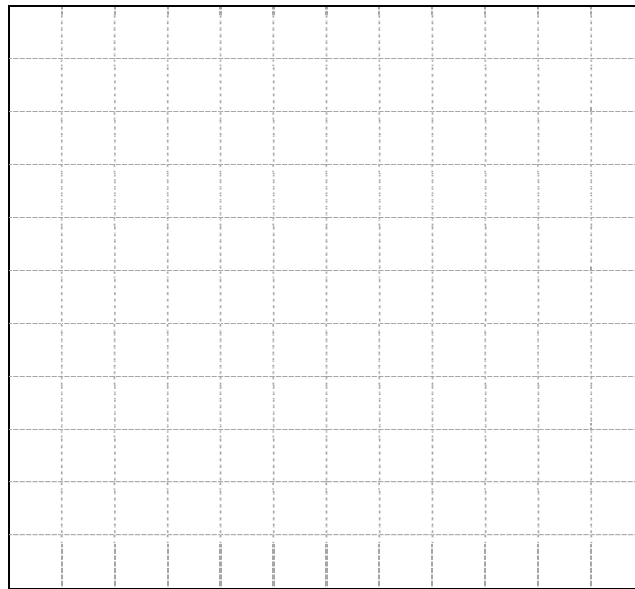

Figure 1-15. With and without torque boost characteristics.
29. Plot the curves with and without torque boost in Figure 1-15. Place the Frequency values along the X-axis, and the Output voltage values along the Y-axis.